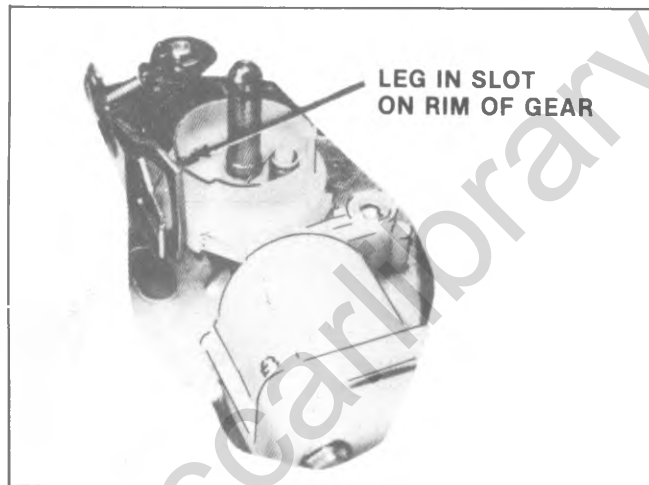

Fig. 8-7--Armature Leg Position
pressure "build-up" forces the two exhaust valves open compelling the washer solution to flow to the nozzles. See Fig. 8-7.
NOTE: For purposes of explanation, only one exhaust valve opening is shown in Fig. 8-7.
1. A leg on the relay armature rides up a ramp located on the outer surface of the ratchet gear. When the leg reaches the top of the ramp, it moves over the top edge of the ratchet gear. This action allows the ratchet gear pawl to re-enter the armature opening preventing further rotation of the ratchet gear until the next time the relay coil is energized from the washer button. (Refer to Fig. 8-7 for position of armature leg while pump is idling.)